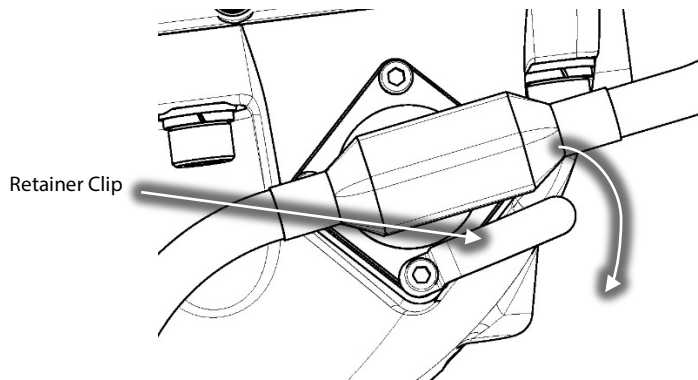

Figure 12 – Retainer Clip Rotation
- Loosen the screw containing the Retainer Clip and rotate the clip to allow for the connector to be removed. Refer to Figure 12 (Retainer Clip Rotation).